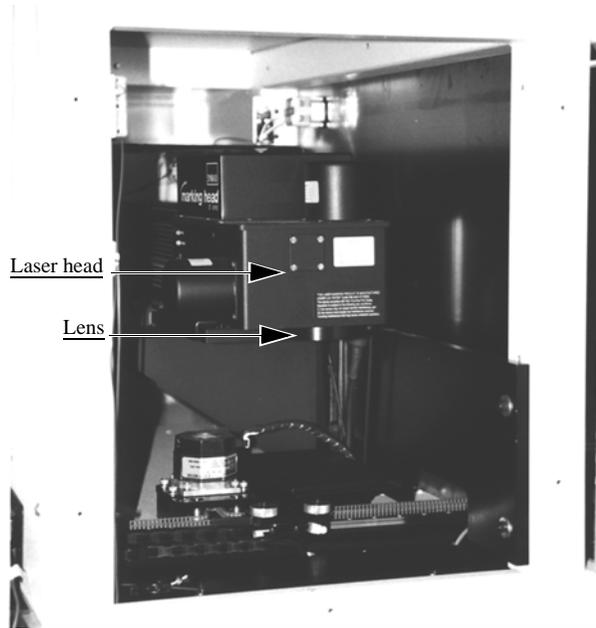

Figure 5-5—Upper left laser housing with panel removed
- 1b) Remove the upper left laser housing panel. *Figure 5-5* shows the panel removed.